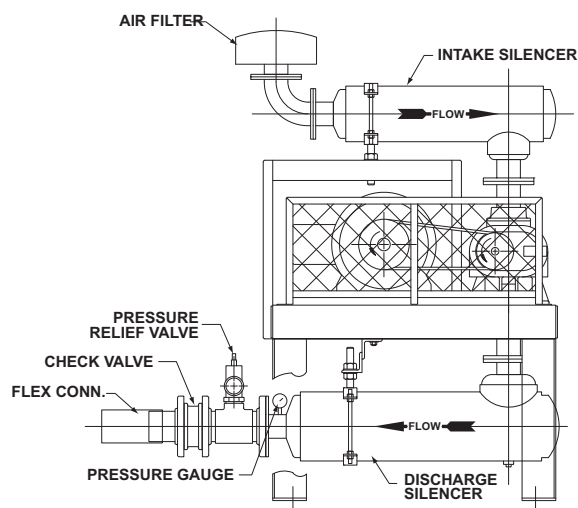

Figure 5-1 – Typical Blower Installation
**Figure 5-1** shows a typical complete installation of the blower and accessories. Note the absence of throttle or shut-off valves in both discharge and intake piping. If it is possible for airflow to be cut off in either line, add a pressure and/or vacuum relief valve. In some installations, it may be desirable to use only an inlet silencer-cleaner supported directly from the blower connection. Keep the weight of accessories and piping to a minimum to prevent blower casing distortion. If the weight exceeds 10% of blower weight, support the components independently of the blower and connect them with a flexible hose or connectors. The approximate weight of the blower is listed in **Table 4-1 on page 8**.